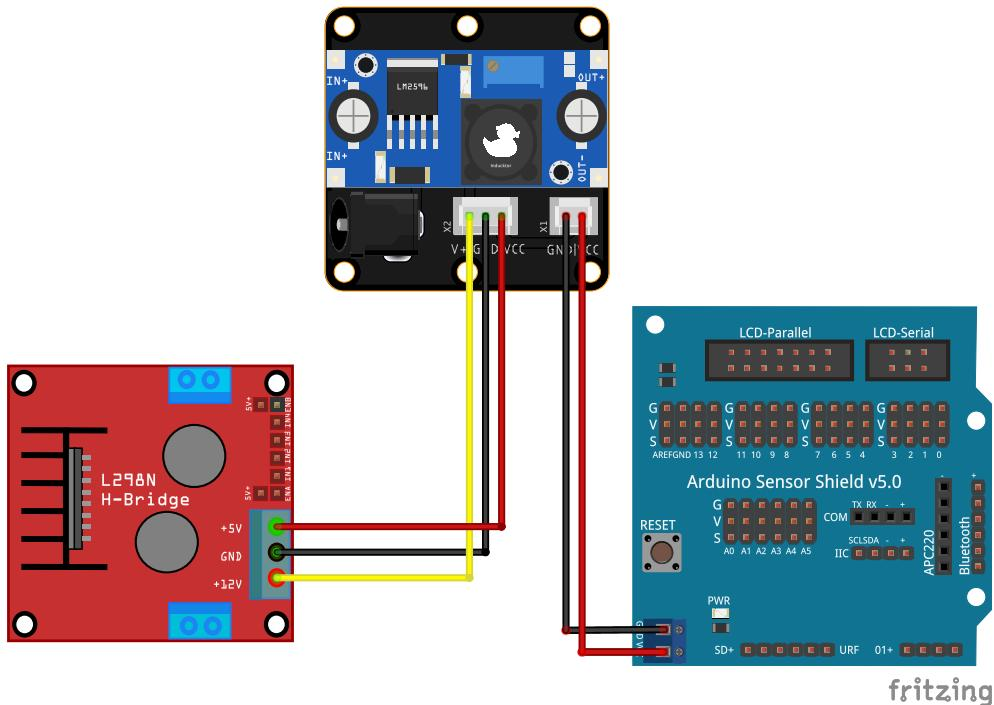

Figure 3: How to connect power to the motor driver
- 2) Connect the 2 and 3 pin connectors to the power distribution board, these should only connect one way, as shown in Figure 3.
- 3) As seen in Figure 3, connect the **yellow** wire from the 3 pin wire to the **12 V** screw terminal on the motor driver. Start by loosening the screw terminal, then insert the wire, and re-tighten the screw terminal. Do the same for the: **black** wire and the **GND** screw terminal, and the **red** wire and the **+5 V** screw terminal.
- 4) As seen in Figure 3, connect the **black** wire from the 2 pin connector with the **GND** screw terminal on the sensor shield. Also connect the **red** wire from the same connector with the **VCC** screw terminal on the sensor shield.